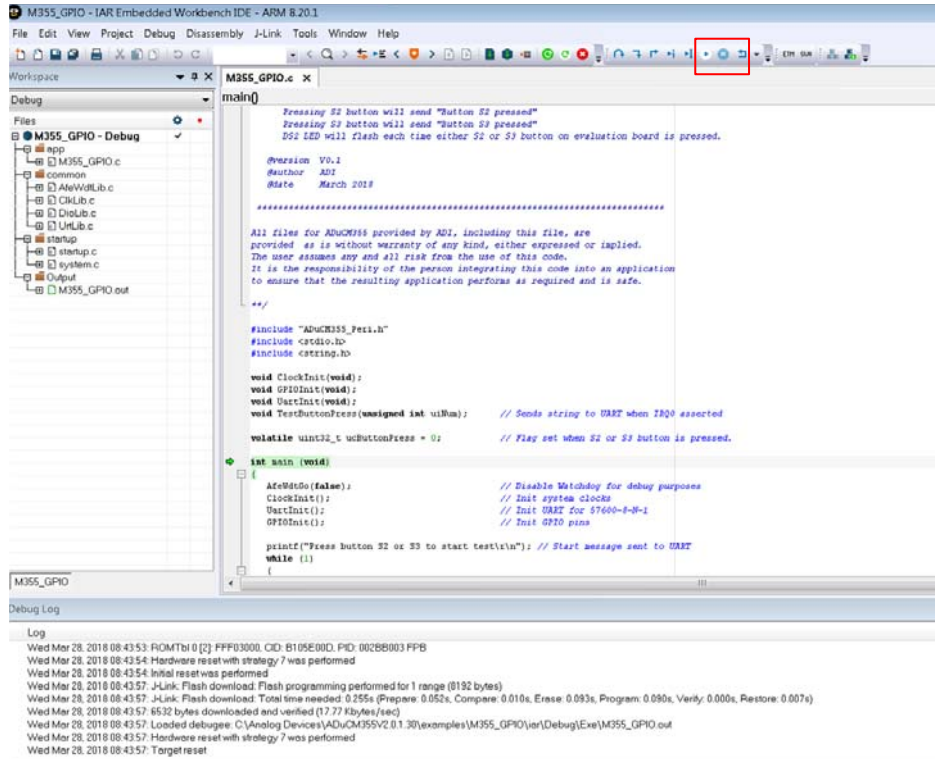

Figure 15. Debug Interface
5. Figure 15 shows the debug interface. Click on the blue arrow (shown in the red box) to begin code execution. The UART then prompts the user to press either S2 or S3. The LED (DS2) toggles on and off with each button press.